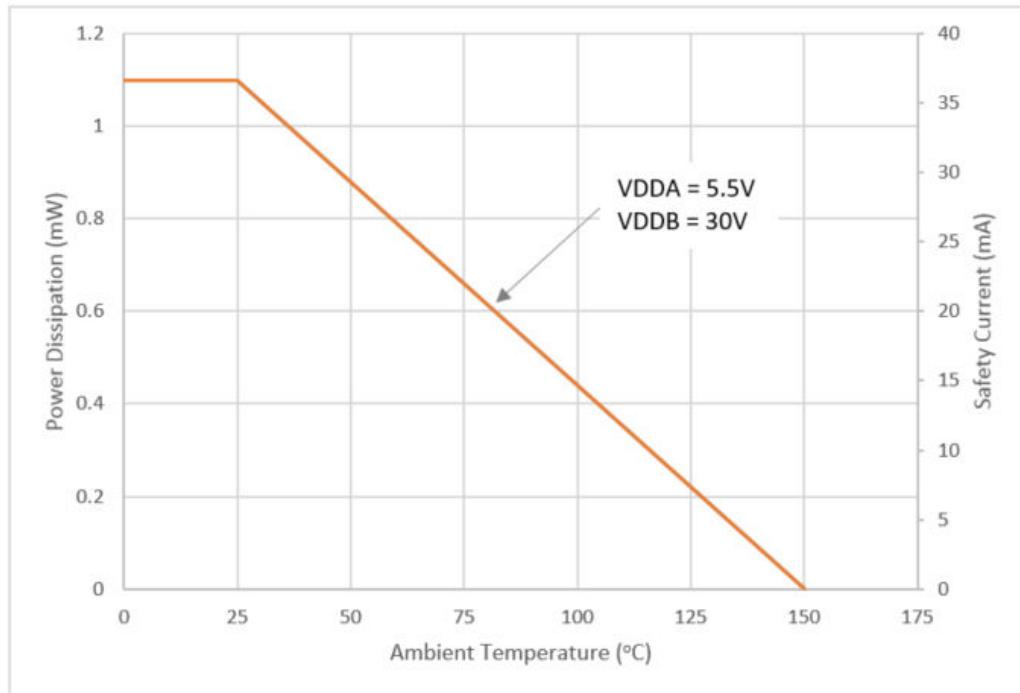

Figure 4.6. WB SOIC-16 Thermal Derating Curve
3. See Figure 4.6 for Thermal Derating Curve.
- Updated Thermal Derating Curve, Figure 4.6.